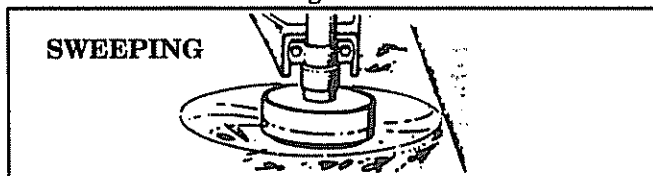

Figure 10
4. **SWEEPING** — **Figure 10** . The fanning action of the rotating line can be used for a quick and easy clean up. Keep the line parallel to and above the surfaces being swept and move the tool from side to side.